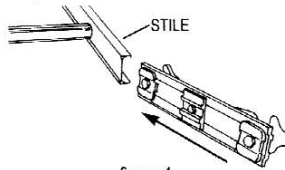

figure 4
4. Offer up platform carriers to the ends of both stiles. Slide carriers on to stiles ensuring all three carrier guide blocks hook under the lips of the stiles. (fig. 4 & 5).